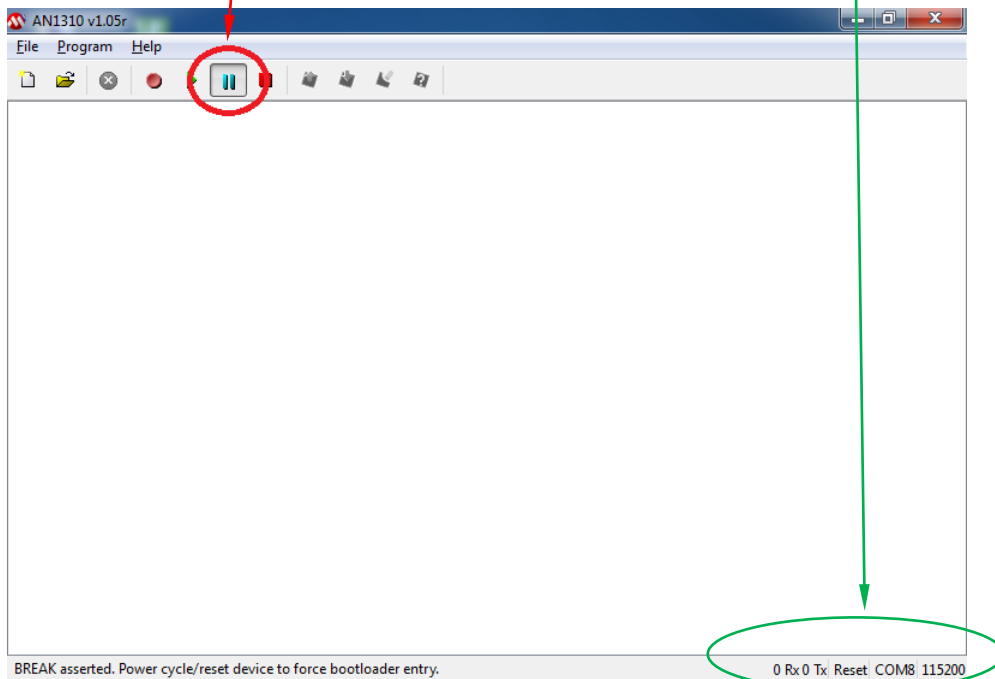

Figure 3.14
- 3. Press the blue **Break/Reset Mode** button (Figure 3.14). The bottom status bar will request resetting the SP-2000 board.